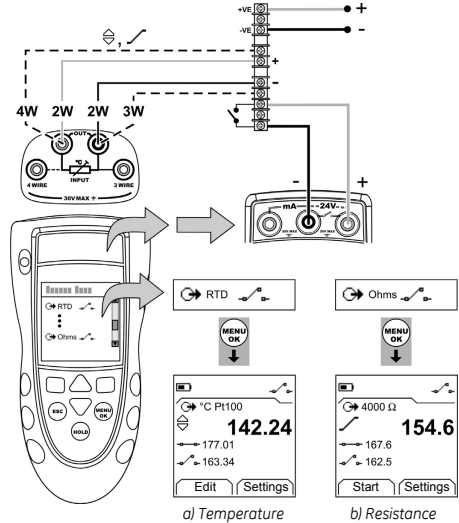

Figure 6: Example configuration - Switch test
1. Connect the instrument (Figure 6) and, if necessary, adjust the *Set Up* (Table 1).